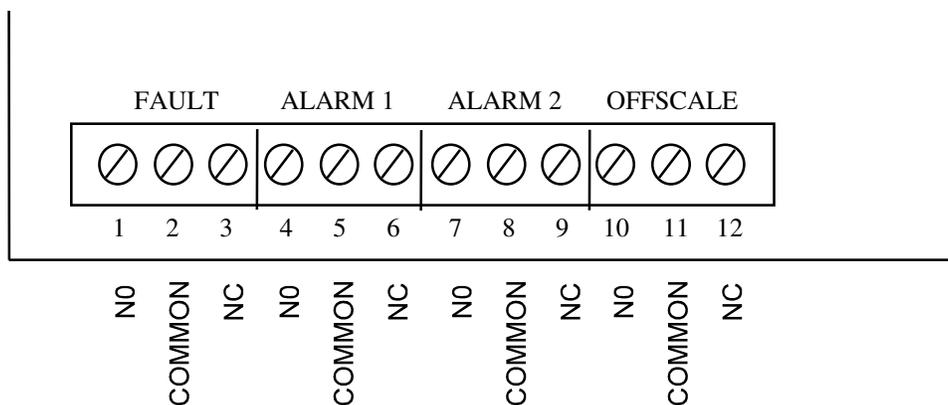

Figure 3 - Controller Lower Circuit Board
3. Relay Terminals - Connect alarm relays (**NO or NC**) (Figure 3 - Controller Lower Circuit Board) as required.